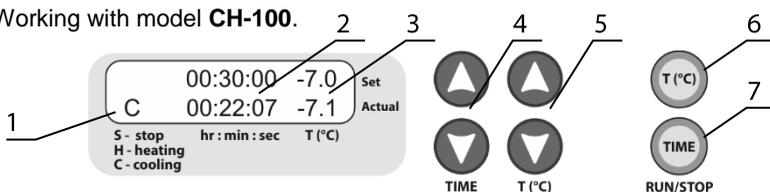
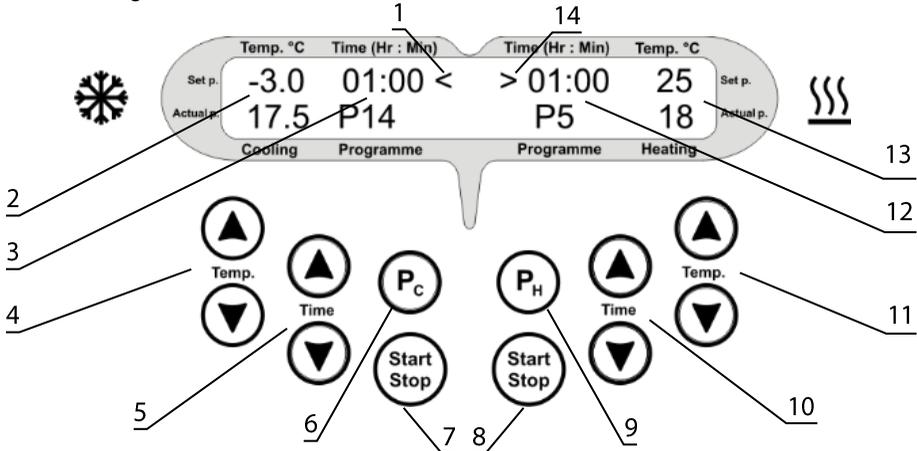
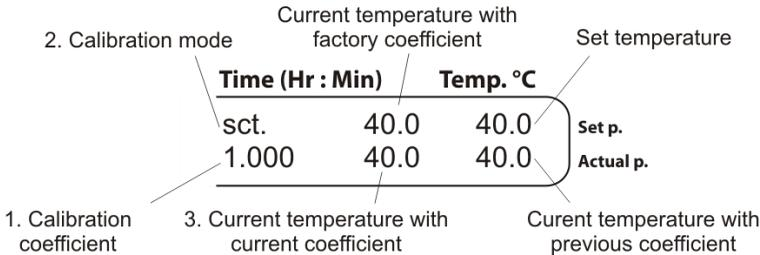

Fig. 1. Control panel of CH-100
Fig. 2. Control panel of CH 3-150
Fig. 3. Control panel in calibration mode
- 5.1.3. **Temperature setting**. Use the **▲** and **▼ T (°C)** keys (fig. 1/5) to set the required temperature. Values are shown on display (upper line, fig. 1/3). Temperature increment is 0.1°C . Pressing the key down for more than 2 s makes the values change quicker.
- 5.1.4. Press the **RUN/STOP T (°C)** key (fig. 1/8) to start heating or cooling. The corresponding operation status is indicated on the display, **H** for heating, **C** for cooling (fig. 1/1). Current temperature value is shown on display (lower line, fig. 1/5).
- 5.1.7. After thermal stabilisation of the unit (i.e. after set and current temperatures equalize, fig. 1/3), open the block lid, place samples and close the lid.
- 5.1.9. Use the **▲** and **▼ TIME** keys (fig. 1/4) to set the required time period. Values are shown on display (upper line, fig. 1/2). Time increment is 1 minute. Pressing the key down for more than 2 s makes the values change quicker.
- 5.1.10. Press the **RUN/STOP TIME** key (fig. 1/7) once to start the timer. The elapsed time is indicated in the lower line of the display (fig.1/2). When the set time is reached, the timer stops and a sound signal is heard.
After the set time elapses and the timer stops, the device does not stop the heating or cooling process. Press the **RUN/STOP T (°C)** key (fig. 1/7) manually to stop the heating or cooling.
5.2.4. **Selecting a program.** Press the **P_C** key (fig. 2/6) to select cooling programs or the **P_H** key (fig. 2/9) to select heating programs. Each press selects next program in cycle.
5.2.5.1 Cooling programs. Press and hold the **P_C** key for 4 seconds until < symbol appears on the display (fig. 2/1).
Use the **▲** and **▼ Temp.** keys (fig. 2/4) to set the required temperature. Cooling increment is 0.1°C. Set values are shown on display on the left in the upper line, **Set p.** (fig. 2/2).
Use the **▲** and **▼ Time** keys (fig. 2/5) to set the required work time interval in hours and minutes. Time increment is 1 minute. Set values are shown on display on the left in the upper line, **Set p.** (fig. 2/3).
5.2.5.2 Heating programs. Press and hold the **P_H** key for 4 seconds until > symbol appears on the display (fig. 2/14).
Use the **▲** and **▼ Temp.** keys (fig. 2/11) to set the required temperature. Heating increment is 1°C. Set values are shown on display on the right in the upper line, **Set p.** (fig. 2/13).
Use the **▲** and **▼ Time** keys (fig. 2/10) to set the required work time interval in hours and minutes. Time increment is 1 minute. Set values are shown on display on the right in the upper line, **Set p.** (fig. 2/12)
5.2.8. Press the **Start Stop** key (fig. 2/7 or 2/8) to start the cooling or heating timer.
- 6.2. To change the calibration coefficient, hold the **RUN/STOP TIME** key (fig. 1/7, **CH-100**) or **Start Stop** (fig. 2/7, **CH 3-150**) key pressed for more than 8 s to activate calibration mode. The calibration mode appears on the display (fig. 3).
- 6.3. **Restoring factory settings.** Set 1.000 value using the **▲** and **▼ Temp or T (°C)** keys as shown on fig. 3/1 to restore the factory settings. Press the **RUN/STOP TIME** or **Start Stop** key once to save the changes and exit the calibration mode.
- 6.4.4. Let us assume that the readings of independent sensor is 39°C, but the display's actual temperature is 40°C (fig. 3/4). Then it is necessary to add 1°C correction.
- 6.4.5. Hold the **RUN/STOP TIME** or **Start Stop** key pressed for more than 8 s to activate calibration mode. The following parameters will be shown on the display (fig. 3).